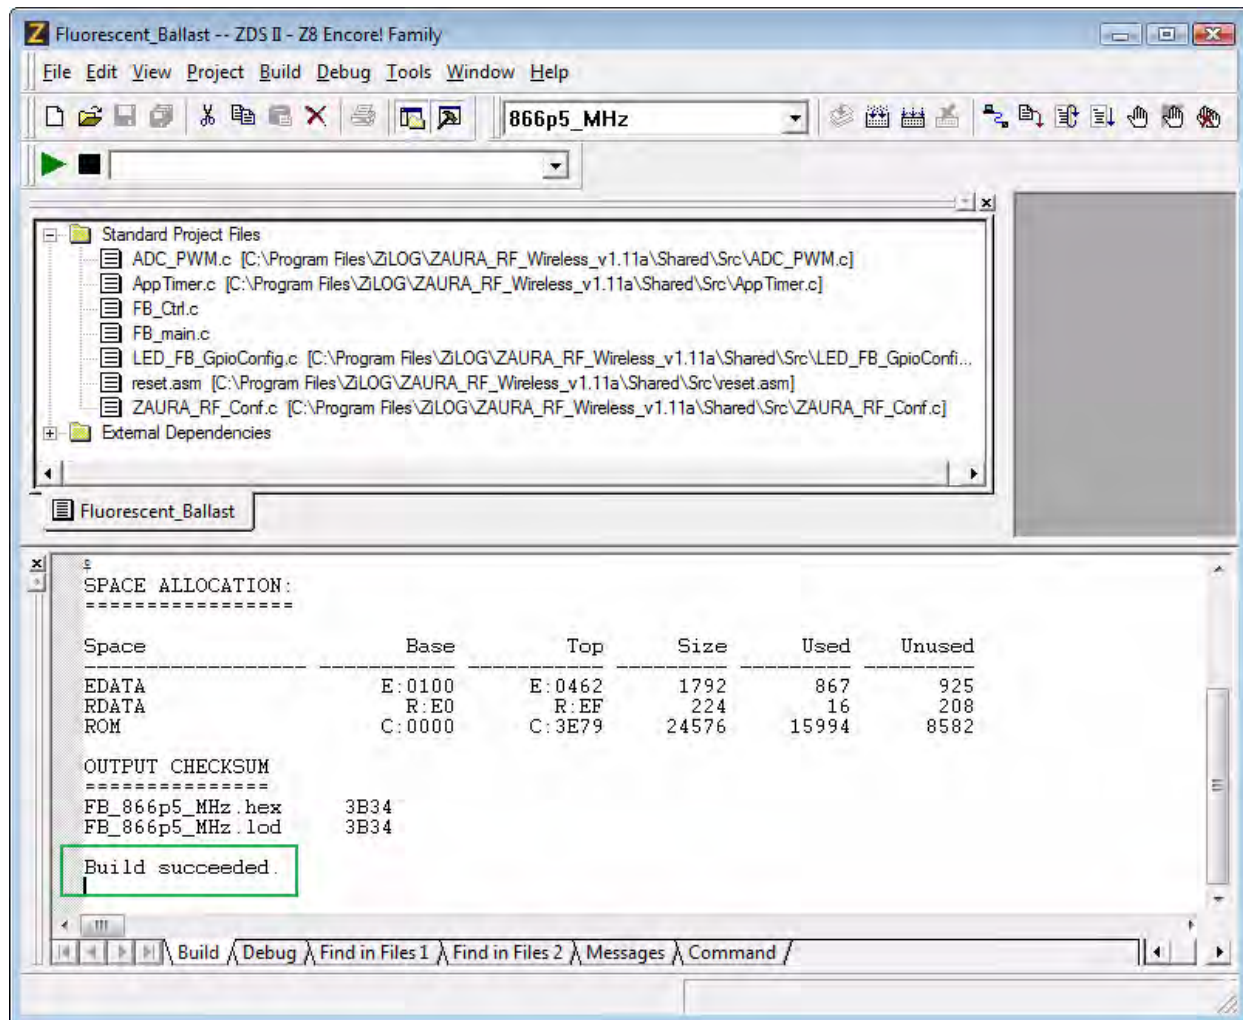

Figure 9. A Successful Build
9. When the rebuild is complete, a Build succeeded. message will appear, as highlighted in Figure 9.